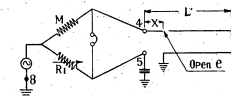

FIG 13
- (1) Connect low frequency source (< 100 c/s) to the posts for external source. Set the lever switch to MUR. Connect the open wire to X_1 and ground its distant end. Ground the near end of its mate with distant end open. Connect X_2 to one terminal of a condenser with the other terminal grounded. Arrange bridge as in preceding description, but ground outer terminal of source, Balance the bridge and obtain reading R_1 (Fig 13)